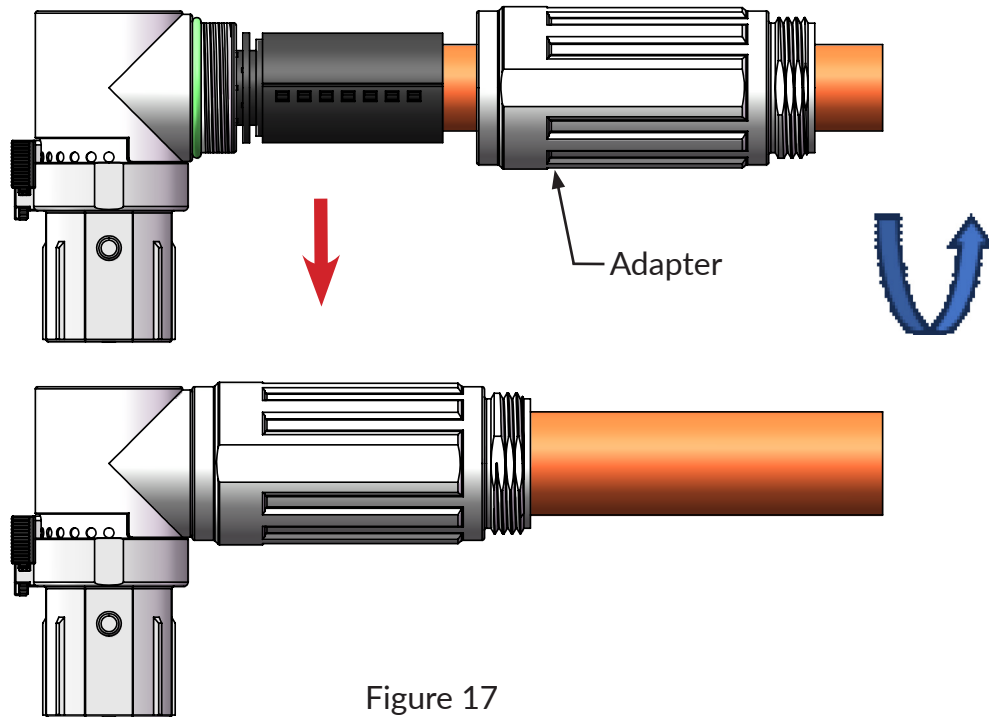

Figure 17
3) As figure 17 shown, tighten the adapter to plug shell with 36mm spanner, recommended torque is 8~10N.m;